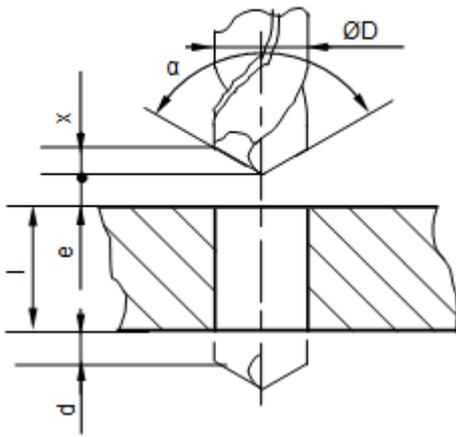

Figure 3
- By interpreting Figure 3 below, determine the length (L) to cover by the cutting tool during the machining of the hole knowing that the point angle of the drill is  $118^\circ$ . (2.5 marks)